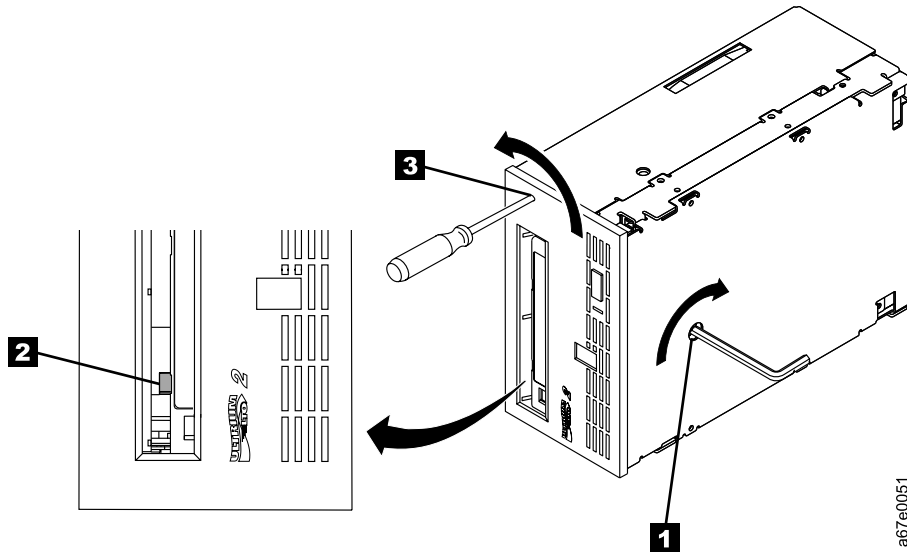

Figure 392. Determining whether the tape is broken. The view is from the front of the drive.
6. Place the drive so that the front faces you, then tilt it on its left side (see Figure 392).
7. Locate the access hole at the bottom of the unit (see **1** in Figure 392).